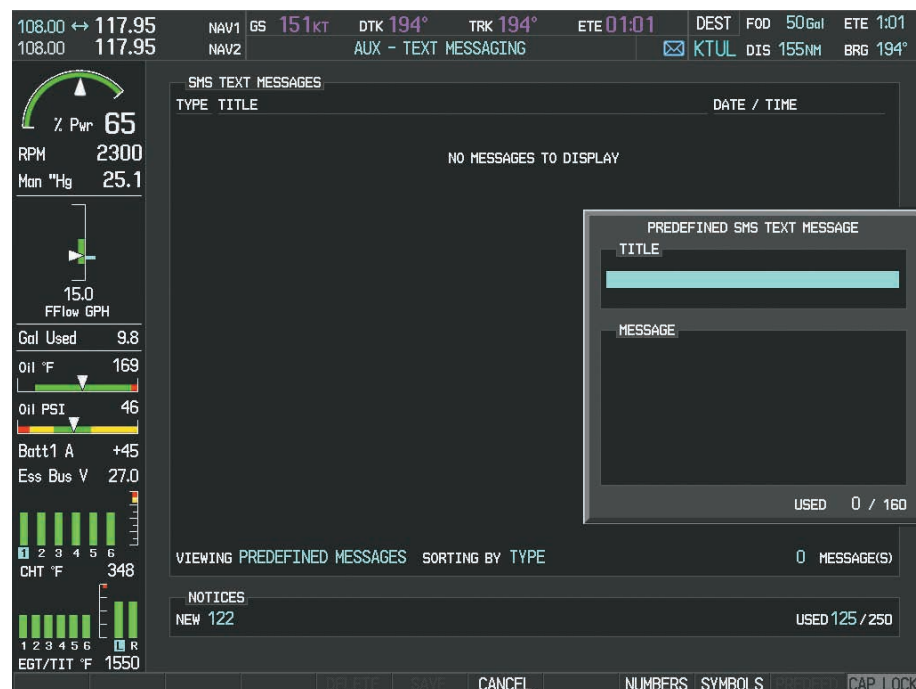

Figure 8-99 Composing a Predefined Message
- c) Press the **ENT** Key. The PREDEFINED SMS TEXT MESSAGE Window is now displayed as shown in Figure 8-99.